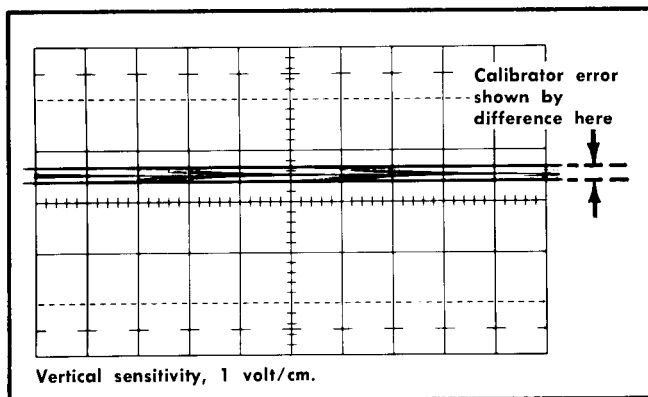

Fig. 5-1. Amplitude Calibrator accuracy check.
g. Check—Separation of the display traces (see Fig. 5-1) not more than 2 cm ($\pm 2\%$). A single trace indicates that the AMPLITUDE CALIBRATOR voltage and the Standard Amplitude Calibrator voltage are equal.
j. Insert the precision termination (listed under Recommended Equipment, item 14) between the Type 556 CAL OUT connector and the 50-ohm cable, using adapters as necessary.